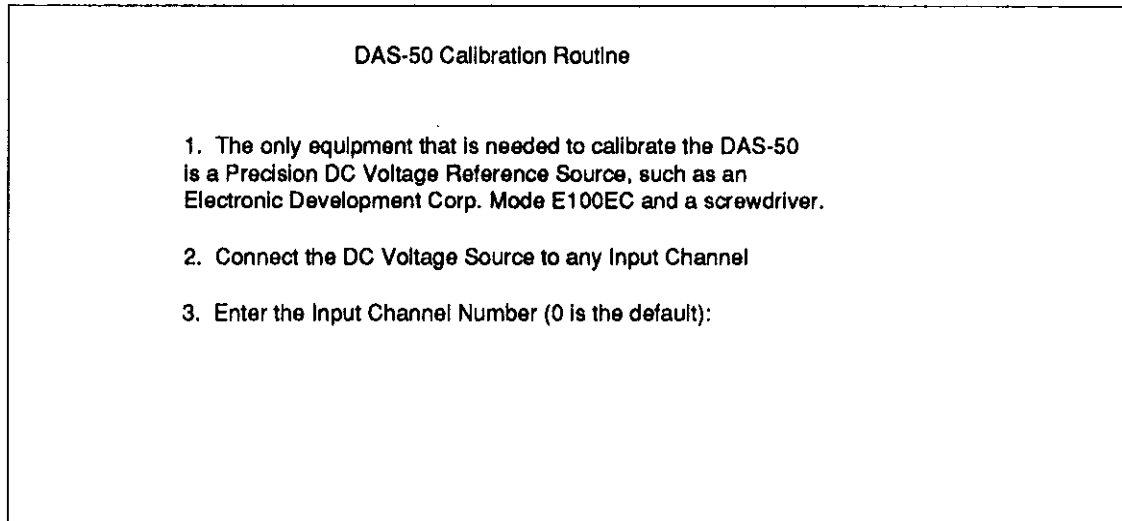

Figure 7-3. First Calibration Screen
6. To begin the calibration routine, press **1** . The first screen of the calibration procedure will appear. (Refer to Figure 7-3.) Enter the appropriate channel number and follow the procedures outlined in the corresponding screens. Make certain to perform the calibration according to the instructions. Maintain the sequence because some adjustments are dependent on the others.